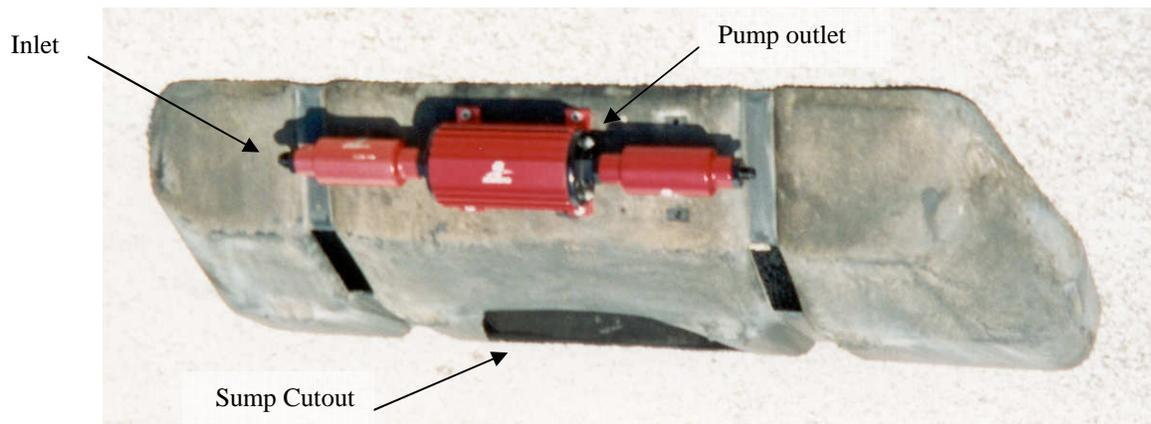

Figure 1-2
- 1-8. Install one of the supplied AN-10 o-rings on the AN-10 cutoff side of the AN-10 cutoff to AN-08 reducer union fitting, if not already installed, and install on the outlet side of the pump / filter assembly as shown in figure 1-2.
- 1-9. Position the fuel pump / filter assembly from above on the opposite end of the plastic fuel tank shield as the sump cutout or an appropriate mounting location. Center the pump / filter assembly in all directions on the flat shown in figure 1-2. Using the fuel pump as a guide or using the pump mounting template, mark the four pump mounting holes. Insure there are no obstructions behind the mounting surface and drill four 1/4" mounting holes.
- 1-10. If you are using the plastic fuel tank shield for mounting your fuel pump, the fuel pump should be installed such that when the plastic fuel tank shield is installed the fuel pump outlet is on the driver side of the vehicle. Secure the fuel pump to the plastic fuel tank shield by installing each of the four 1/4" carriage bolts from the inside of the fuel tank shield, through the fuel tank shield and through the fuel pump mounting holes. Install each of the four provided flat washers and nuts on the bolts and tighten. The plastic fuel tank shield now should look similar to the one shown in figure 1-2.